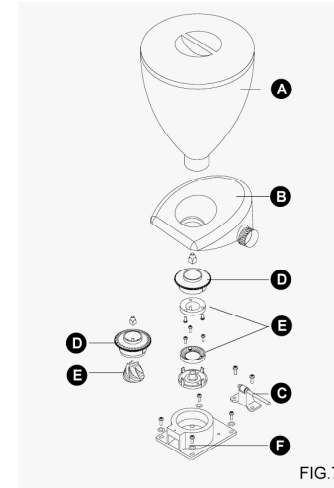

FIG.7
5. Grinding group maintenance (fig.7)